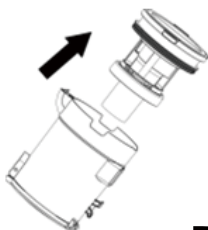
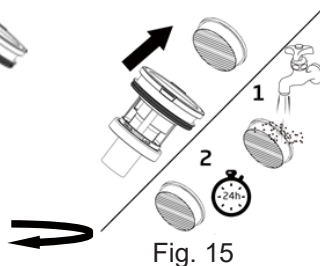
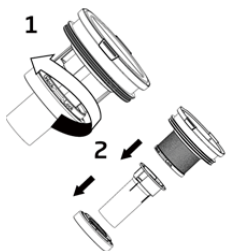
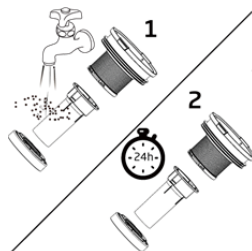

Fig. 14
Fig. 15
Fig. 16
Fig. 17
3. Lift out the cyclone from dust container (Fig 14), lift out pre-motor filter and shake off dust frequently. Every three months rinse filter and dry thoroughly (Fig 15), turn the filter assembly head anti-clockwise to disassemble the inner filter (Fig 16), wash with running water, and make sure it is dry before next use (Fig 17).